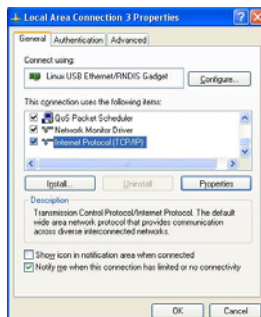

FIG. 36 Local Area Connection 3 Properties
4. In the Local Area Connection 3 Properties window (FIG. 36) under the **General** tab, select *Internet Protocol (TCP/IP)* and click on **Properties**.